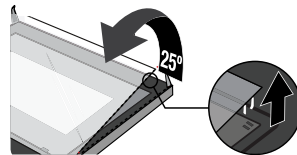

Figure 4
4. Separate the glass carefully by lifting it approximately  $25^{\circ}$ . (Figure 4)